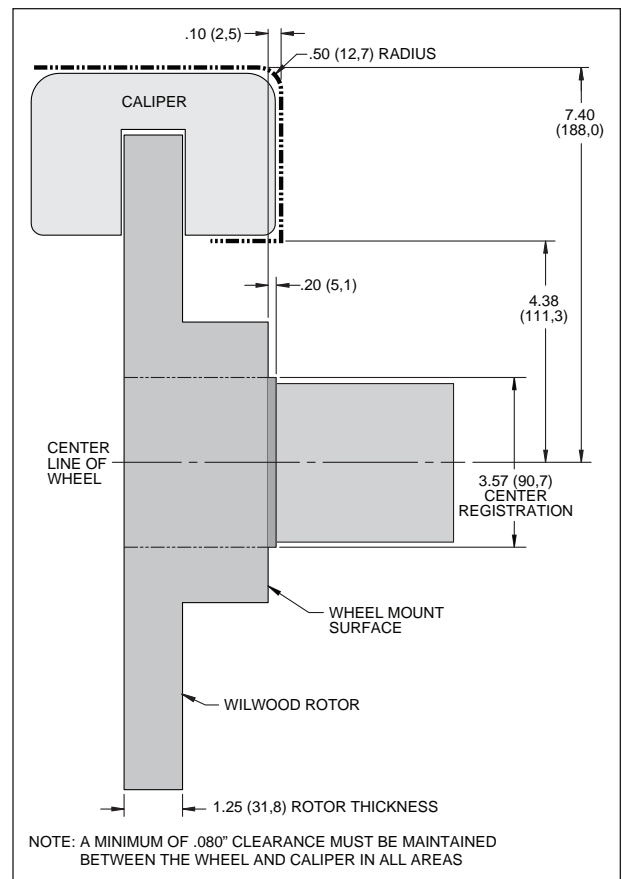

Figure 2. Wheel Clearance Diagram
- Review the Wheel Clearance Diagram (Figure 2, page 3) to verify that there is adequate clearance with the wheels you will be using with the installation.
- Verify your wheel clearance using Figure 2.
- **CAUTION:** Wheel fitment to OEM hub interference must be checked. There is a 3.57" diameter step on the hub face that was used to register the old brake drum (Figure 2). Be sure your wheel fits flush against the hub face. If the step interferes, you will need to use a wheel spacer (customer supplied) to clear the step.
- Temporarily install the wheel and torque the lug nuts to the manufacturer's specification. Ensure that the wheel rotates freely without any interference. **CAUTION:** *Wheel fitment to OEM hub interference must be checked.* There is a 3.57" diameter step on the hub face that was used to register the old brake drum (Figure 2). Be sure your wheel fits flush against the hub face. If the step interferes, you will need to use a wheel spacer (customer supplied) to clear the step.
• **NOTE:** *OEM rubber brake hoses generally cannot be adapted to Wilwood calipers. The caliper inlet fitting is a 1/8-27 NPT. Install Wilwood's stainless steel braided flexline hose kit (21), P/N 220-13319 included with this kit. **Carefully route hoses to prevent contact with moving suspension, brake or wheel components.** NOTE: *Wilwood hose kits are designed for use in many different vehicle applications and it is the installer's responsibility to properly route and ensure adequate clearance and retention for brake hose components.**